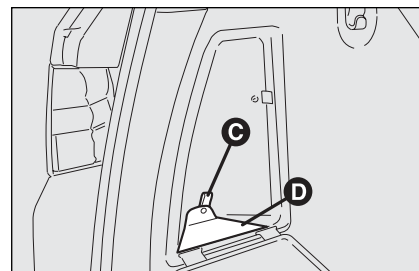

fig. 64
- ☐ hold the tab **C**-fig. 64 to open the second lid **D** and gain access to the fuse box.